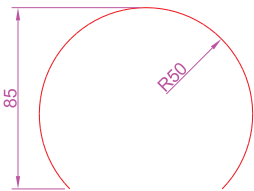

Fig. 14.42 Second example – **3D Surface** – the part circle to be extruded
1. In the **Top** view on a layer colour **red** construct the circle shown in Fig. 14.42. Using the **Break** tool break the circle as shown.